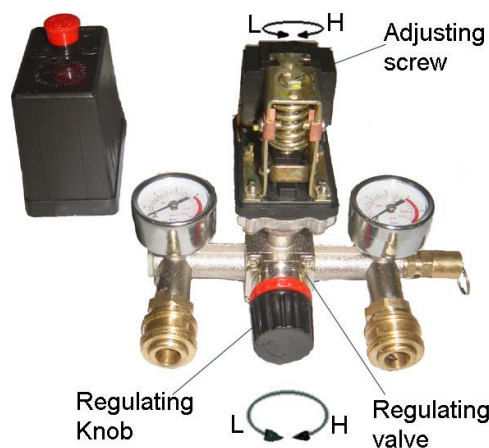

Fig.3
- 2) The output pressure of compressed air can be adjusted by regulating valve. Pull up the knob of regulation valve and turn it clockwise to increase or counterclockwise to decrease the pressure (Fig.3).